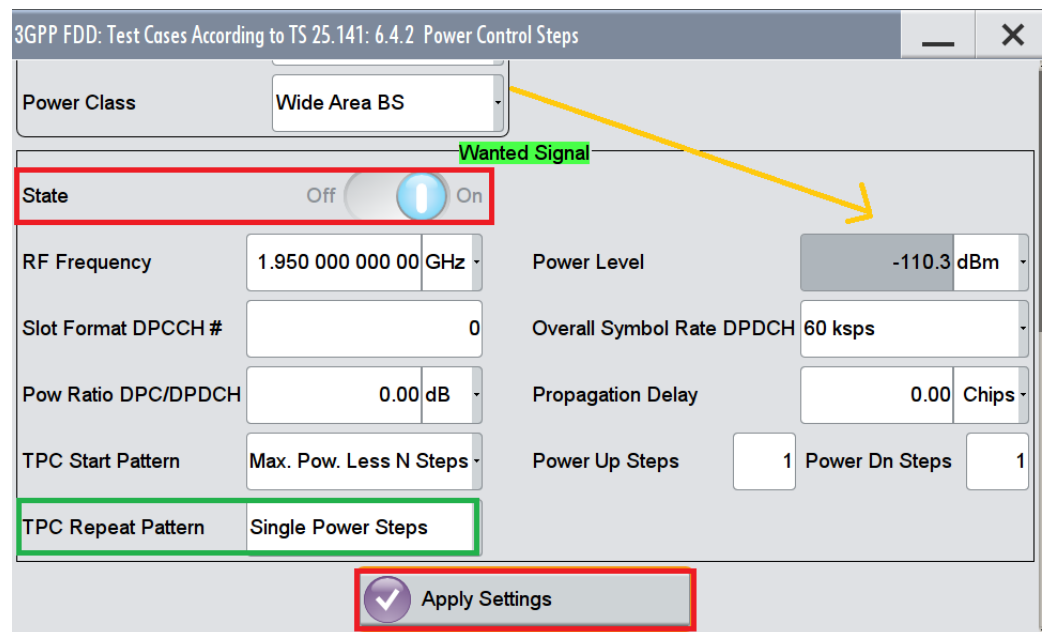

Fig. 3-40: SMW: The uplink power level is set based on the Power Class. Set the TPC Repeat Pattern.
8. Select the **Power Class**. This sets the **Power Level** automatically according to the standard. (Fig. 3-40)
9. Set the **RF frequency** (Fig. 3-40)
10. Apply necessary changes (Slot format DPCCH#, Power ratio DPC/DPDCH, Symbol rate, Propagation delay, Step size) according the declaration of the manufacturer. (Fig. 3-40)
11. **Maximum Power Less n Steps** is fixed as the “TPC start pattern” in the edit mode “According to Standard”. This ensures reliable response of the BS to the TPC bits by sending a sequence of power up steps (TPC bits “1”) followed by a number of power down steps (TPC bits “0”). (Fig. 3-40). Set the number of power up and down steps to reach the start level of  $P_{max} - 3$  dB.
12. Select **Single Power Steps** under “TPC Repeat Pattern” menu to measure power control steps for single steps. (Fig. 3-40)